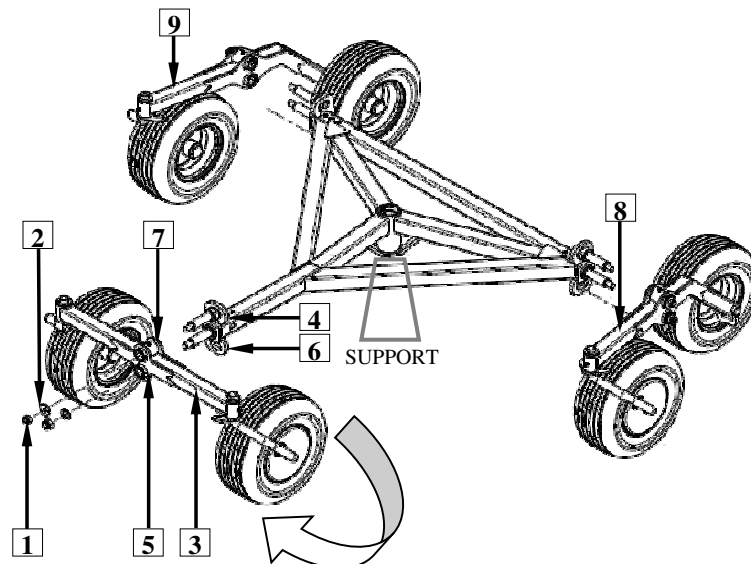

Fig. 17. Increasing working width by means of wheel trolley in Z2-840 rotary rake
In rotary rake Z2-840 for turf meadows it is possible to increase the distance between raking tines from the ground by mounting the driving trolley's wheel arms in a different configuration. For this lift the driving trolley and secure it against an uncontrolled fall. Unscrew nuts (1), remove washers (2), and then draw out the arm of front wheels (3) and insert the locking pin (4) into lower sleeve (5). Trolley's pin (6) should be located in upper sleeve (7). Left (8) and right (9) arm should be switched analogically (Fig. 17).